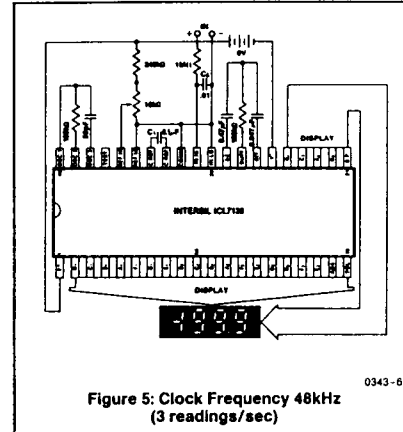

Figure 5: Clock Frequency 48kHz (3 readings/sec)
- 48kHz oscillator, Figure 5, increases current by 20 μA (typ).